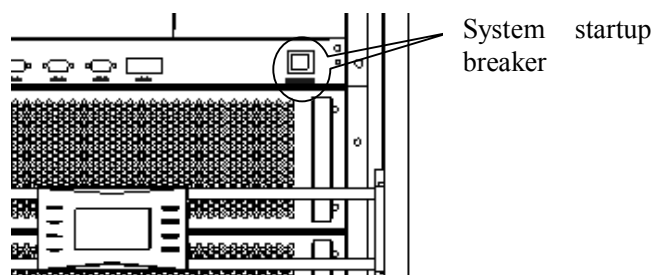

Fig. 9.2
4. Set the “system startup breaker” located on the communication interface to the ON position to perform the UPS self-test (Fig. 9.2).
3. Set the “system startup breaker” located on the communication interface to the ON position to perform the UPS self-test (Fig. 9.2).